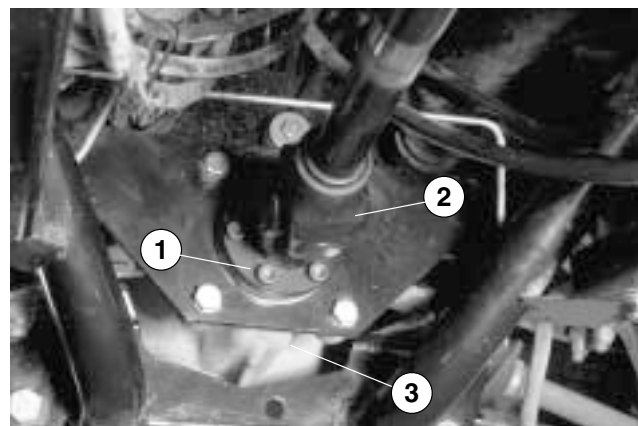

Figure 68
3. Remove socket head screws securing the flange yoke to the coupler flange on the front differential (Fig. 68).
2. Position flange yoke to the coupler flange on the front differential. Secure yoke to the flange with socket head screws (Fig. 68).